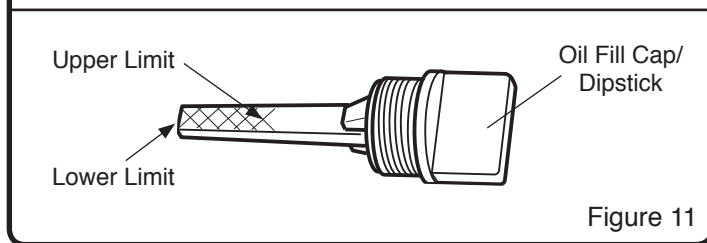

Figure 11
4. When oil level is full, the oil will be at upper limit on dipstick. If oil level is near or below the lower limit, oil must be added. (See Figure 11)